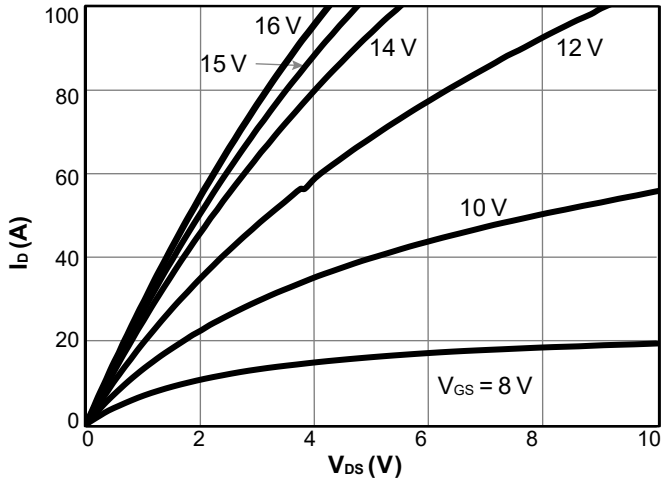

Figure 1. On-Region Characteristics  $T_J = 25^\circ\text{C}$
- The static characteristics in Figures 1 to 8 are obtained using < 300ms pulses, duty cycle 0.5% max.